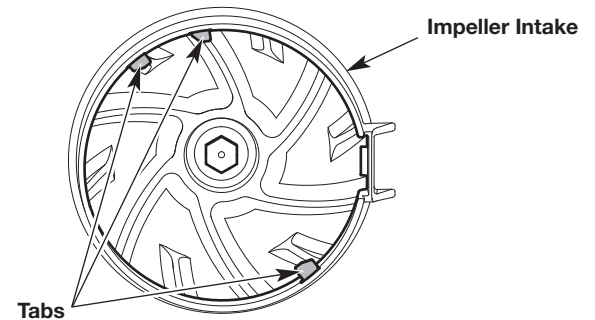

Fig. 6
3. While holding the impeller door open, align the slots on the upper vacuum tube with the tabs in the impeller intake (Fig. 6).